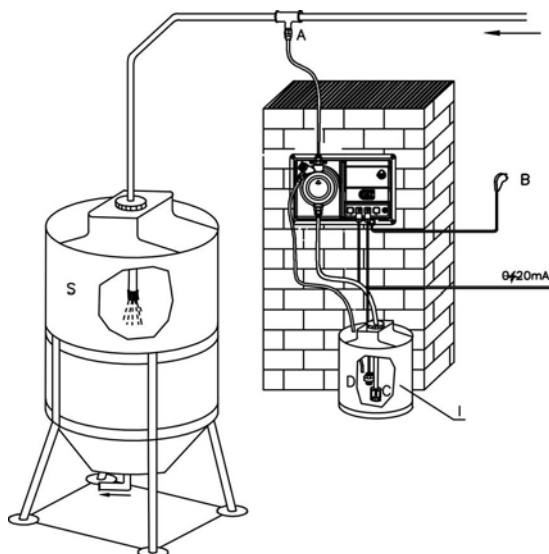

Fig. 15
7.2 - TYPICAL INSTALLATION (Fig.15)